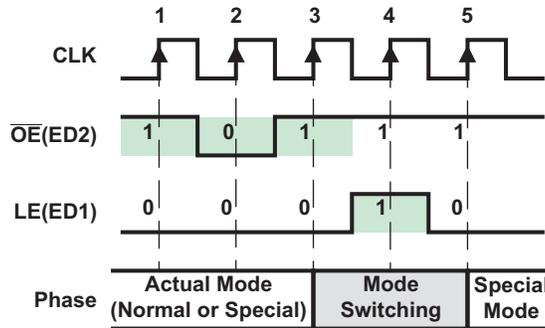

Figure 2. Switching to Special Mode
The function ToSpecial() calls SCLK2GPIO() and configures P3.2 as GPIO. P3.2 is used to toggle states (0 and 1 alternatively) and generates five clocks. OE\_SEG\ (P2.4) is toggled 1-0-1 at the falling edge of the first 3 clock cycles (see Figure 2). LE\_SEG (P1.2) is set to 0 at first clock cycle (or before). LE\_SEG is set to 1 at the falling edge of the third clock cycle. ToSpecial() calls the function SendSpiModeConfig() to change configuration register values in the TLC5916.
**NOTE:** To achieve clock phase alignment, SPI peripheral pin is configured as GPIO for switching into special mode. After switching to GPIO mode, bit banging is used to simulate clock and data, while toggling OE\_SEG\ and LE\_SEG as shown in Figure 2.